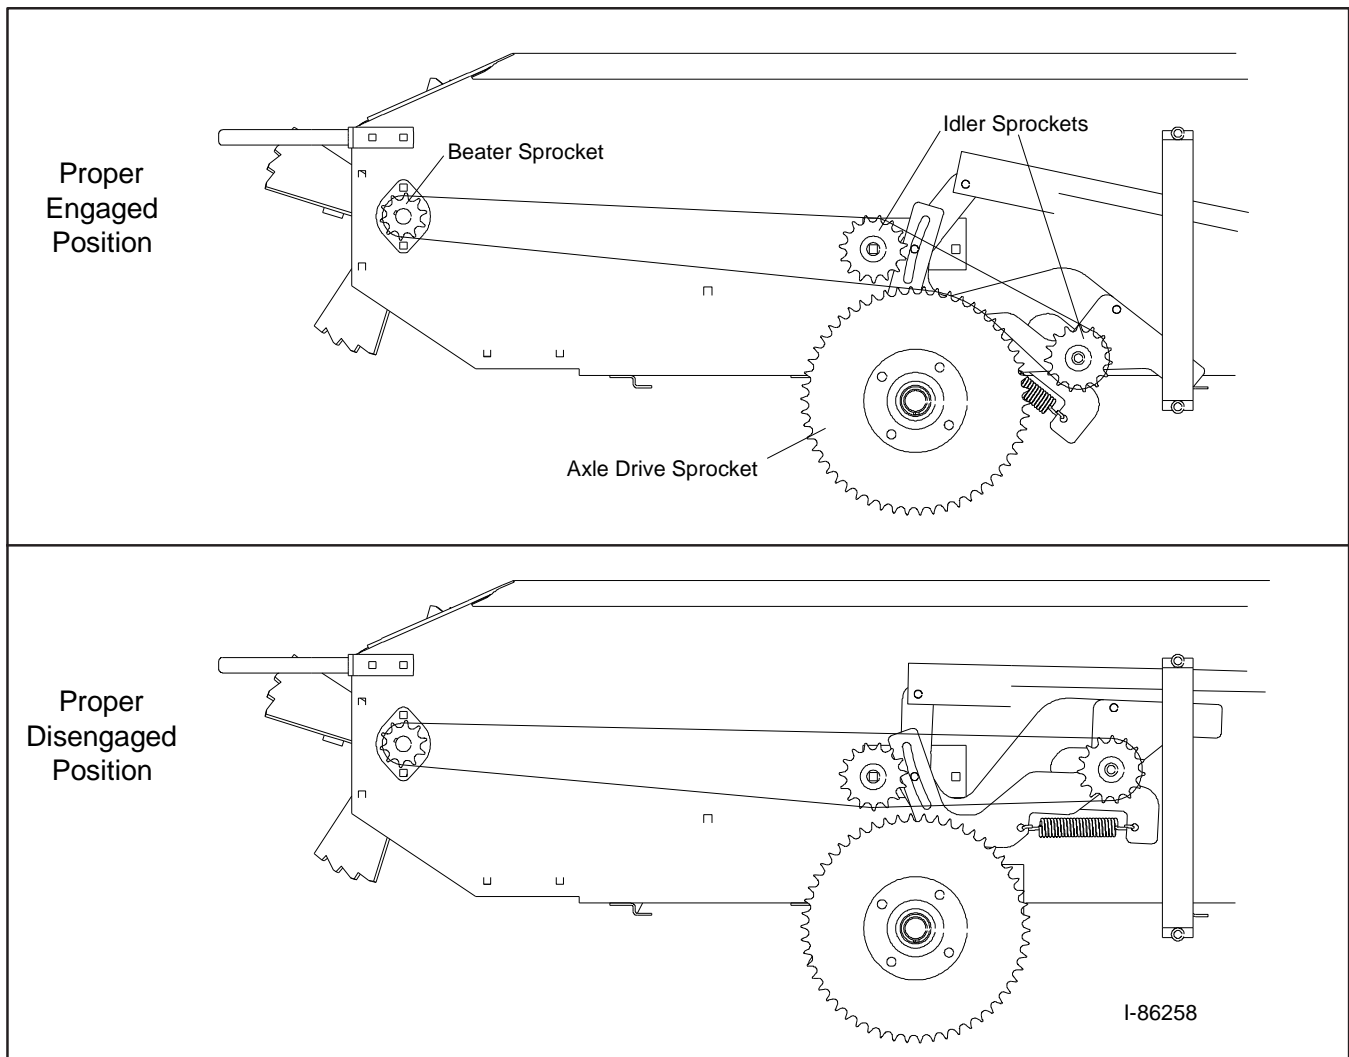

Figure 3D - Beater Drive Chain Installed in the Proper Position
- Apply chain lube once a month (or as needed) to the drive chains (shown in Figure 3D); use vegetable oil or a common spray lube for chains.
3. Remove the right safety shield by removing the three (3) nuts holding the shield in place.
5. As shown in Figure 3D, re-install the chain around the small rear sprocket.
9. Verify that the chain is positioned properly over and around all sprockets as shown in Figure 3D.
10. Re-install the safety shield with the three (3) nuts to hold it in place.